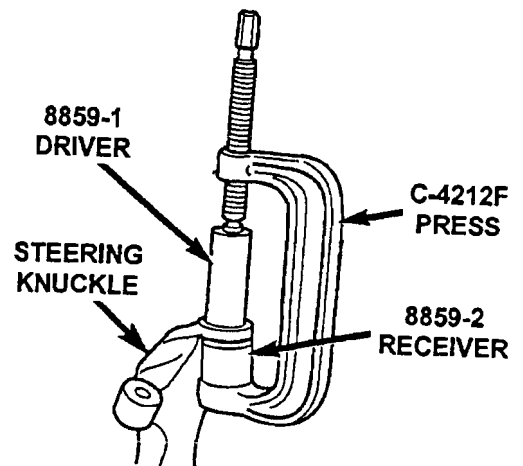

Figure 6
- Press the lower ball joint from the steering knuckle using special tool C-4212F (press), 8859-2 (receiver) and 8859-1 (driver) (Figure 6).